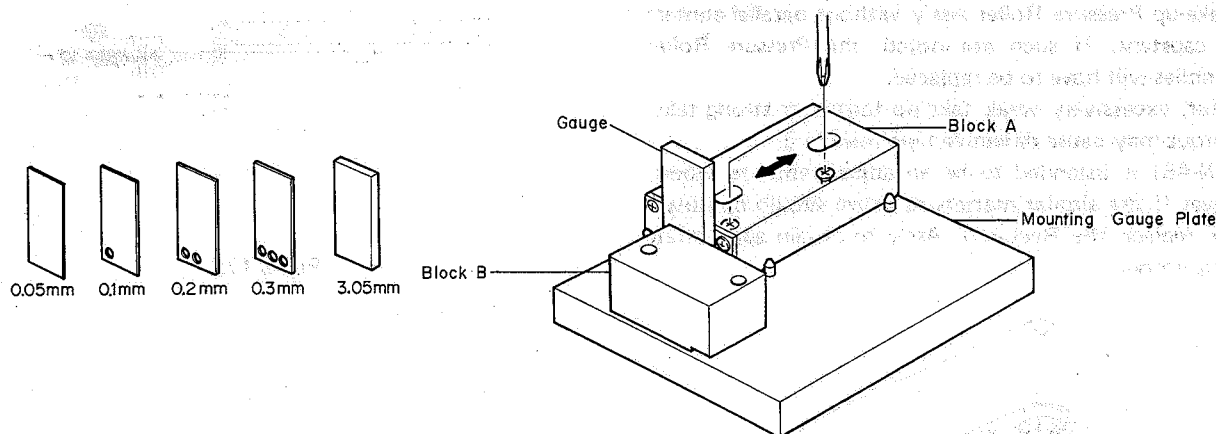
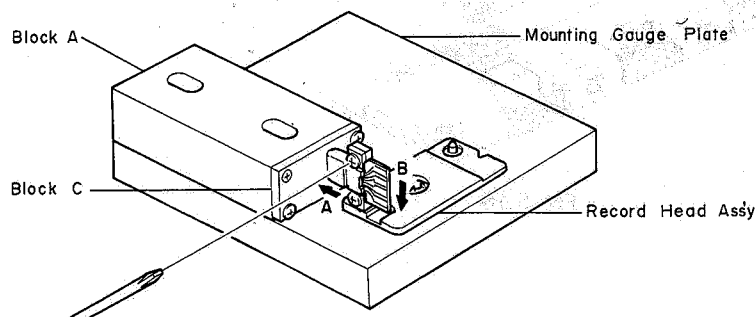

Fig. 5.14
Fig. 5.15
Refer to Figs 5.14 and 5.15.
- (1) Check the accuracy of the record head stroke.
- (2) Remove Head Mount Base Ass'y referring to item 3.22.
- (3) Remove the record head assembly.
- (4) Adjustment of Record Head Mounting Gauge M-9048 (DA09048A)
- (c) As shown in the Fig. 5.14, hold the Gauges (3.05 mm and either one of 0.05, 0.15, 0.2, 0.25, 0.3 or 0.35 mm thickness) between the Block A and Block B, fix the Block A with screws, pushing the Block A to the 2 guide pins.
- (5) Remove the Block B from the Mounting Gauge Plate.
- (6) As shown in the Fig. 5.15, mount the R-8L record head assembly onto the Mounting Gauge Plate, then check the location of the R-8L record head surface. (If record head contacts to the Block C, loosen 2 pcs. of screws that assembled record head and R-8L record head assembly, then place the R-8L record head assembly onto the Plate.)
- (7) Remove the R-8L record head assembly from the Mounting Gauge Plate.
- (8) Readjustment of Record Head Mounting Gauge M-9048 (DA09048A)
- (c) As shown in the Fig. 5.14, hold the Gauges (3.05 mm and either one of 0.05, 0.15, 0.2, 0.25, 0.3 or 0.35 mm thickness) between the Block A and Block B, fix the Block A with screw, pushing the Block A to the 2 guide pins.
- (9) Remove the Block B from the Mounting Gauge Plate.
- (10) Mount the R-8L record head assembly onto the Mounting Gauge Plate.
- (11) As shown in the Fig. 5.15, loosen the R-8L record head with 2 pcs. of screws onto the record head plate. As the location of the Block A is secured by the item (8) - (c), push the record head to the directions A and B, then tighten 2 pcs. of screws.
- (12) Check to insure freedom from gap between the Block C and record head surface, then tighten the 2 pcs. of screws on the record head plate with lock tight paint.
- (13) Assemble the record head assembly to the head mount base assembly.
- (14) Assemble the head mount base assembly to the mechanism assembly.
- (15) Check the record head stroke.